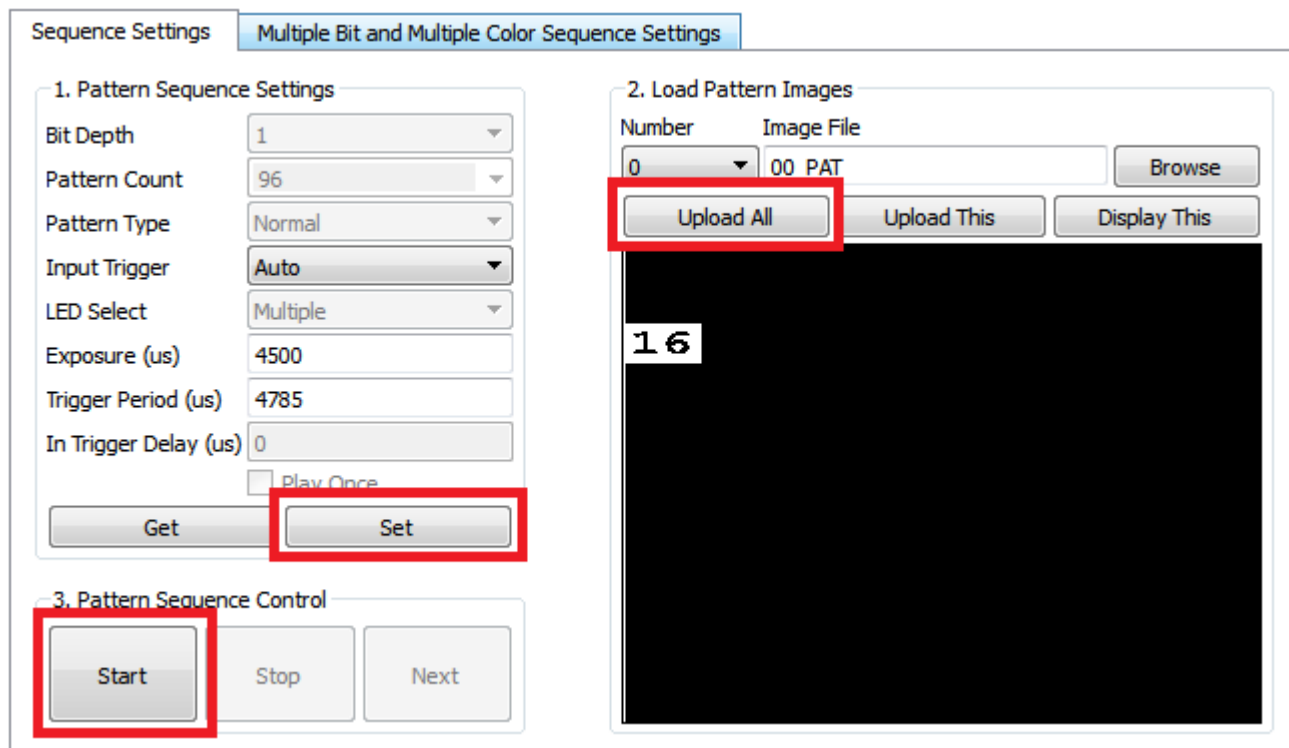

Figure 2-47. DLP LightCrafter GUI Example Sequence Settings for MBMC Sequence
9. Select "Sequence Settings" tab. See Figure 2-47.